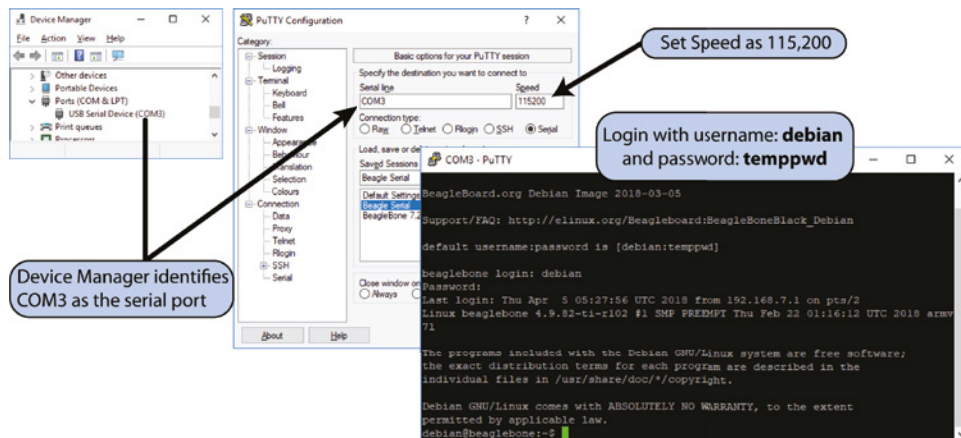

Figure 2-5: Windows Device Manager and opening a PuTTY serial connection to the board
- **COM port number:** You can find this by opening the Windows Device Manager and searching under the Ports section. Figure 2-5 captures an example Device Manager, where the Gadget Serial device is listed as COM3. This will be different on different machines.